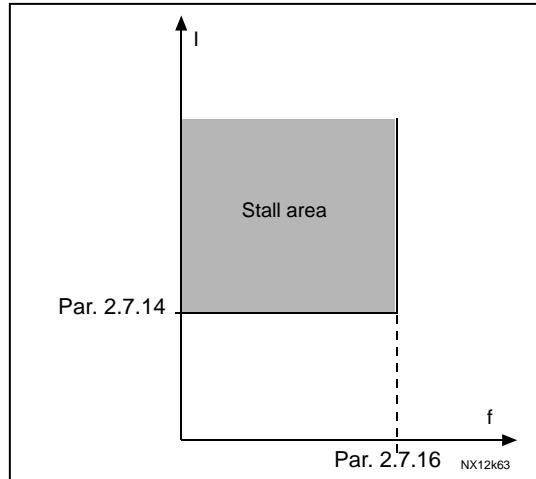

Figure 28 Stall characteristics settings
A. For a stall stage to occur, the current must have exceeded this limit. See Figure 28. This value is set in percentage of the motor's name plate data (parameter 2.1.9). If the parameter 2.1.9 Nominal current of motor is changed, this parameter is automatically restored to the default value.